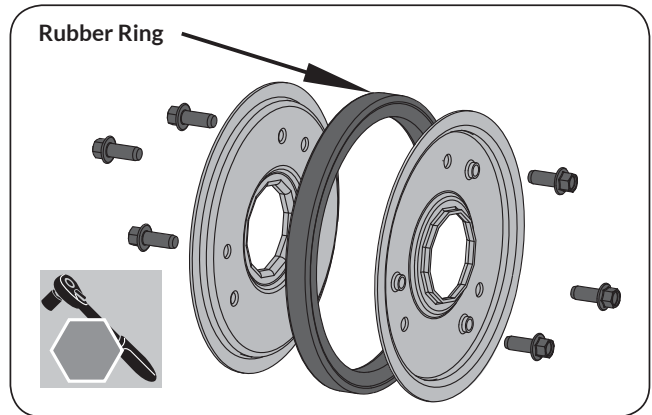

Figure 22e
- Remove the six screws which secure the friction wheel's side plates together. (See **Figure 22e**)